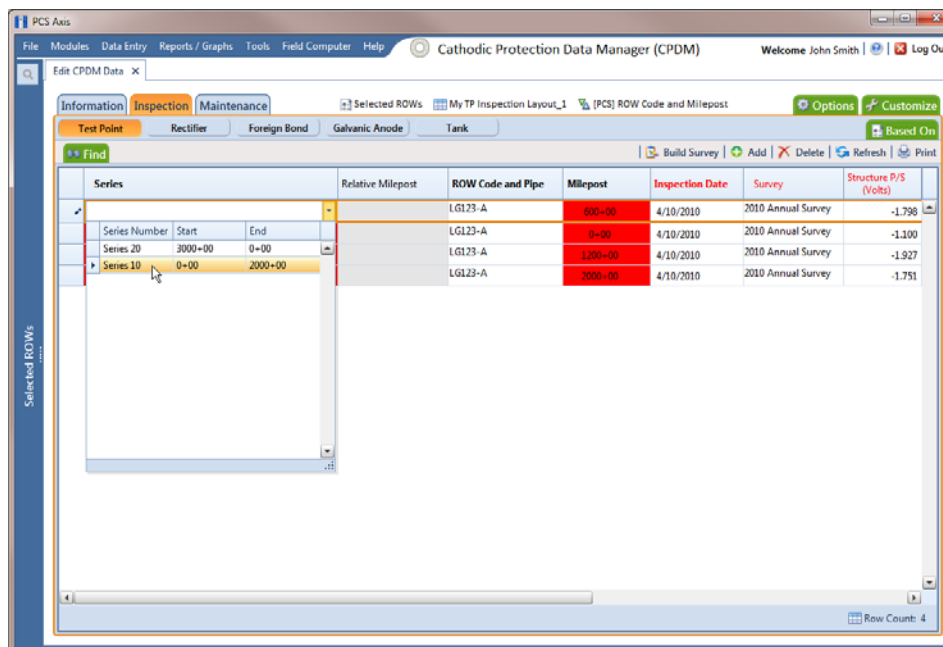

Figure 3-50. Pipeline Series
- 12 Open the data entry grid with the mileposts you want to apply *Pipeline Series*, such as the *Test Point Inspection* data grid shown in the next example (Figure 3-50, page 94).